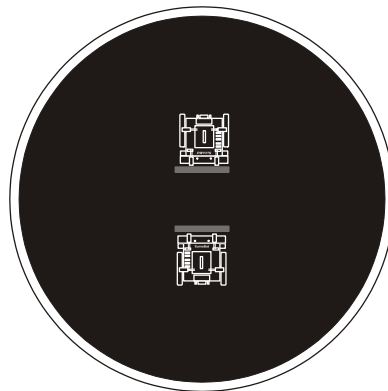

Figure 1-3
- ✓ Place both SumoBots facing each other as shown in Figure 1-3.